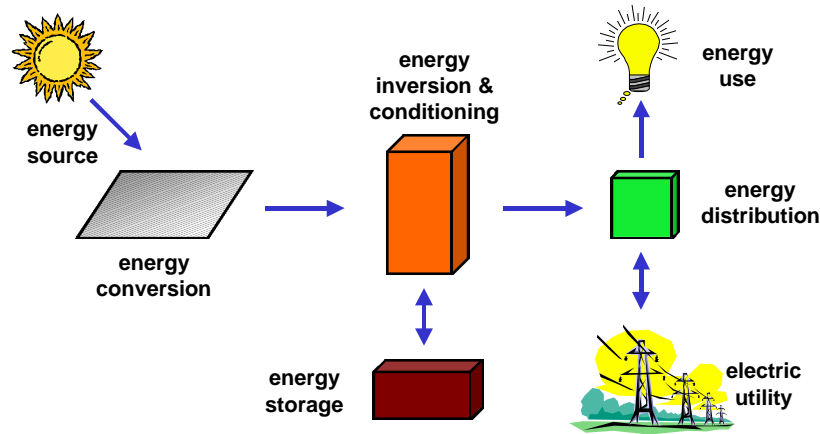

Figure 3. Photovoltaic system components.
A. In addition to an array of photovoltaic modules, a number of other components are required in any PV system to conduct, control, convert, distribute, and store the energy produced by the array. The specific components required depends on the functional and operational requirements for the system, and may include major components such as a *DC-AC power inverter*, *battery bank*, system and battery *controller*, auxiliary energy sources and sometimes the specified *electrical load* (appliances). In addition, an assortment of *balance of system (BOS)* hardware, including wiring, terminations, overcurrent, surge protection and disconnect devices, and other power processing equipment. Figure 3 show a basic diagram of a photovoltaic system and the relationship of individual components.